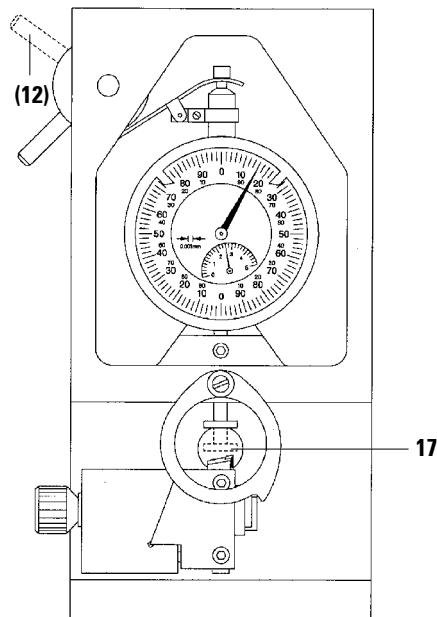

Fig. 5.6
1. Pull lever (12) at the left of calibration device (18) forward as far as it will go, thus moving contact plate (17) backwards to its rear limit position. This prevents the contact plate from hitting the milling edge during the adjustment procedure.
2. Once miller (3) has been correctly adjusted along the x-axis, place miller holder (2) with miller (3) next to block (8) into the calibration device.
3. Fit the clamping device (9) (with the semicircular recess pointing in your direction) against the miller holder (2) and fasten with two knurled screws (10) (turn screws clockwise).
4. Rotate magnifier (16) forward to a position above the miller.
5. With lever (12), bring contact plate (17) close to the miller (move lever backwards) until just a very small gap remains (see Fig. 5.6).